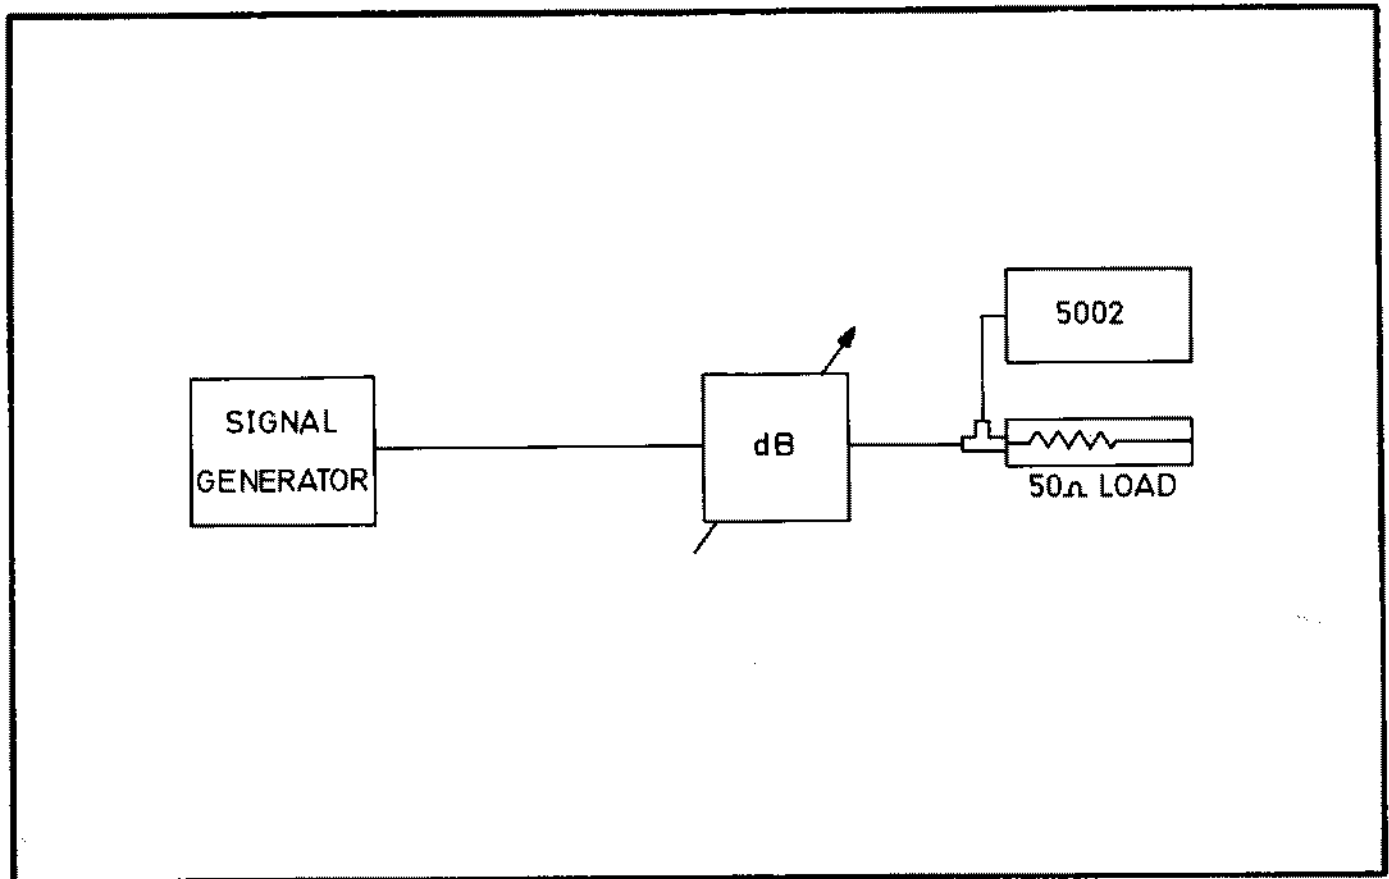

Fig. 6.2 RMS Detector Setting
- 6.5.9.2 Connect the test equipment as shown in Fig. 6.2